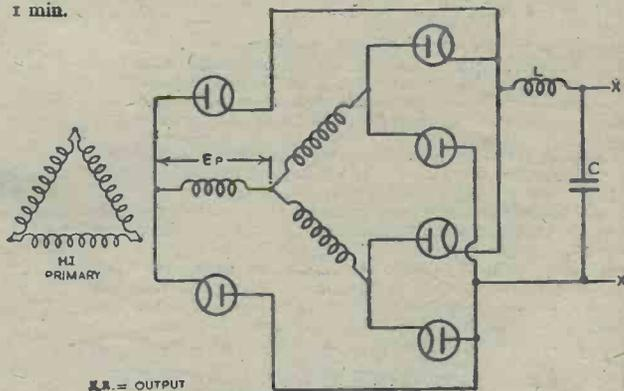

Fig. 6.—Three-phase full-wave rectification.
- Fig. 6.—Three-phase full wave.
| Fig. 6 | GU20 | 7,000 | 3 | 9 | 1 | 3,000 | .2% | 300 C.P.S. |
| Fig. 6 | GU21 | 10,000 | 3.5 | 9 | 1 | 4,270 | .2% | 300 C.P.S. |